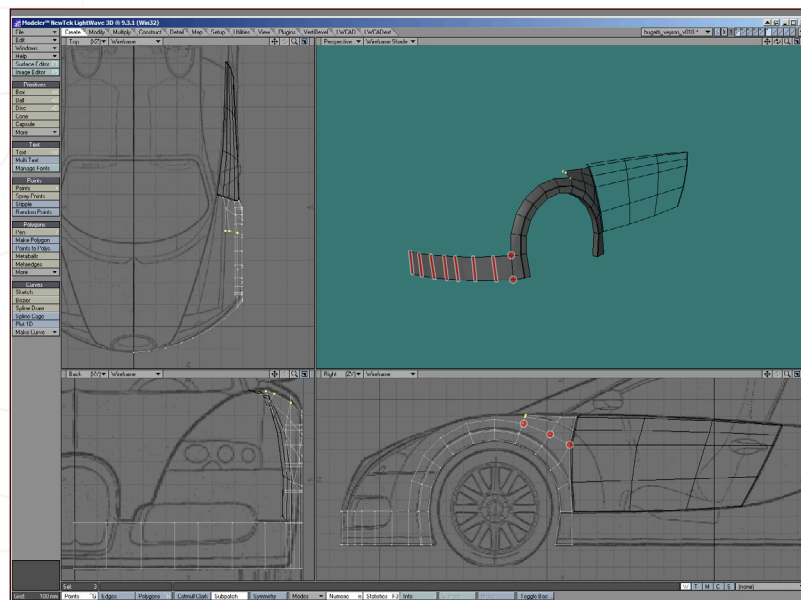

Fig 35
35. To form the lower front part of the car, we select the two points at the bottom front of the wheel arch, and again with the extender tool we extend the front across and round. Use enough segments to define the curve smoothly, but not too many! Also marked up here are the top rear three points. The rear most of the three has now been moved up so as to match the incoming position of the door topology. The extender tool has also been used to extend the edge up in two sections, beginning the formation of the top edge profile which runs the length of the wing, and down toward the headlight (Fig35).